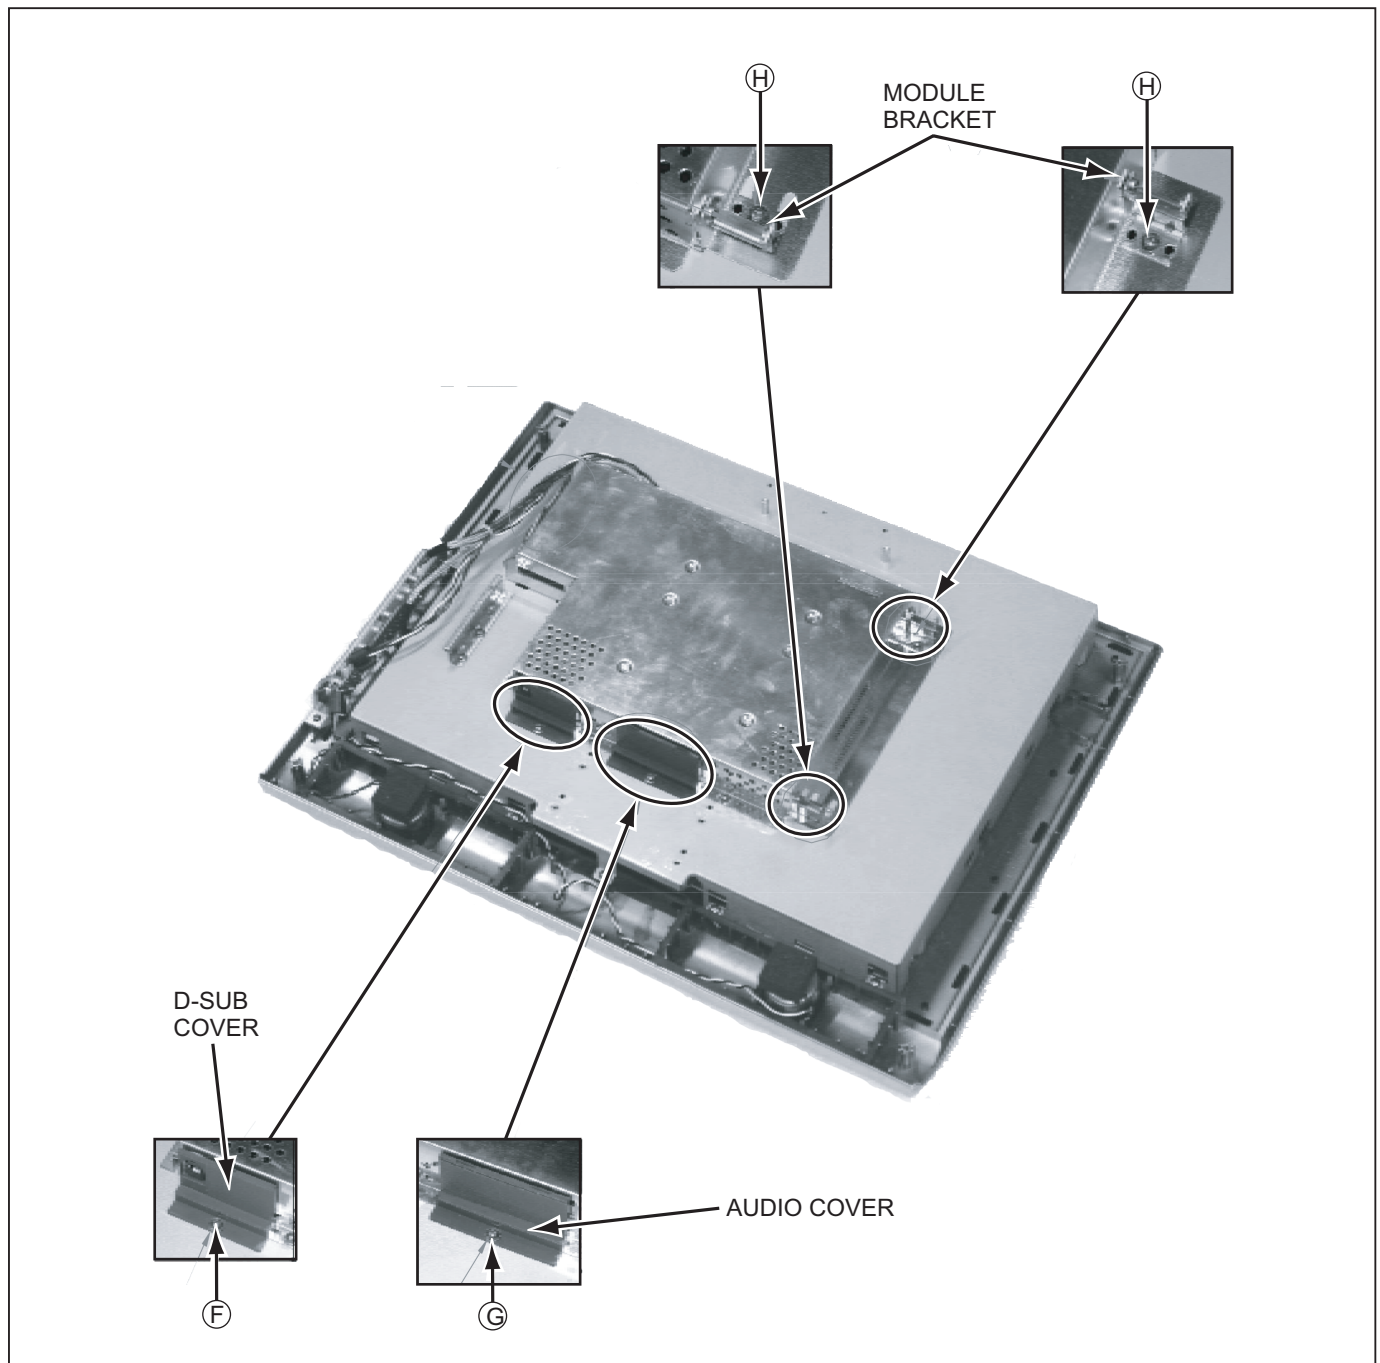

Fig.4
3.1.6 REMOVING THE MAIN PWB SHIELD (Fig.4, 5)
- (1) Remove the 1 screw **[F]** and remove the D-SUB COVER. (Fig.4)
- (2) Remove the 1 screw **[G]** and remove the AUDIO COVER. (Fig.4)
- (3) Remove the 2 screws **[H]** and remove the MODULE BRACKETS. (Fig.4)